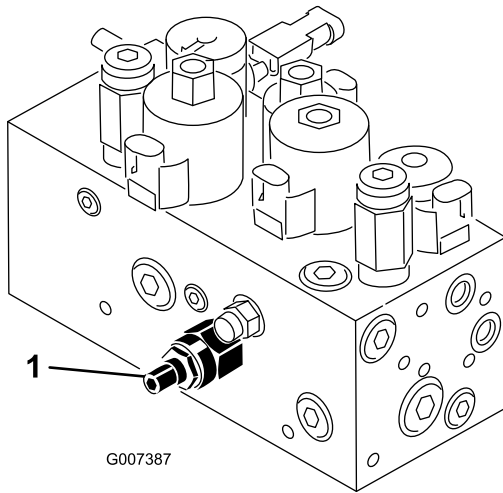

Figure 49
The cutting unit lift/drop circuit is equipped with a flow control valve (Figure 49). This valve is preset at the factory but an adjustment may be required to compensate for differences in hydraulic oil temperatures, mowing speeds, attachments, etc. If an adjustment is required, proceed as follows:
1. Raise the seat and locate the flow control valve for the center pull frame (Figure 49) located on the side of the hydraulic manifold.